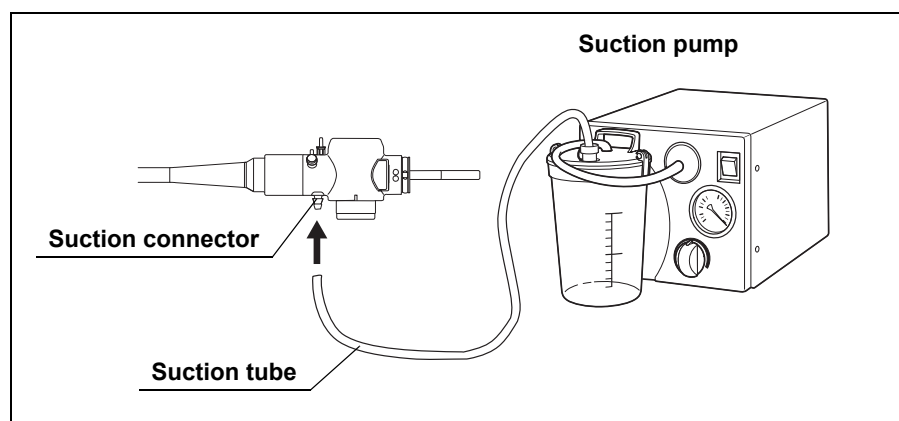

Figure 3.16
10. Connect the suction tube from the suction pump to the suction connector on the endoscope connector (see Figure 3.16).